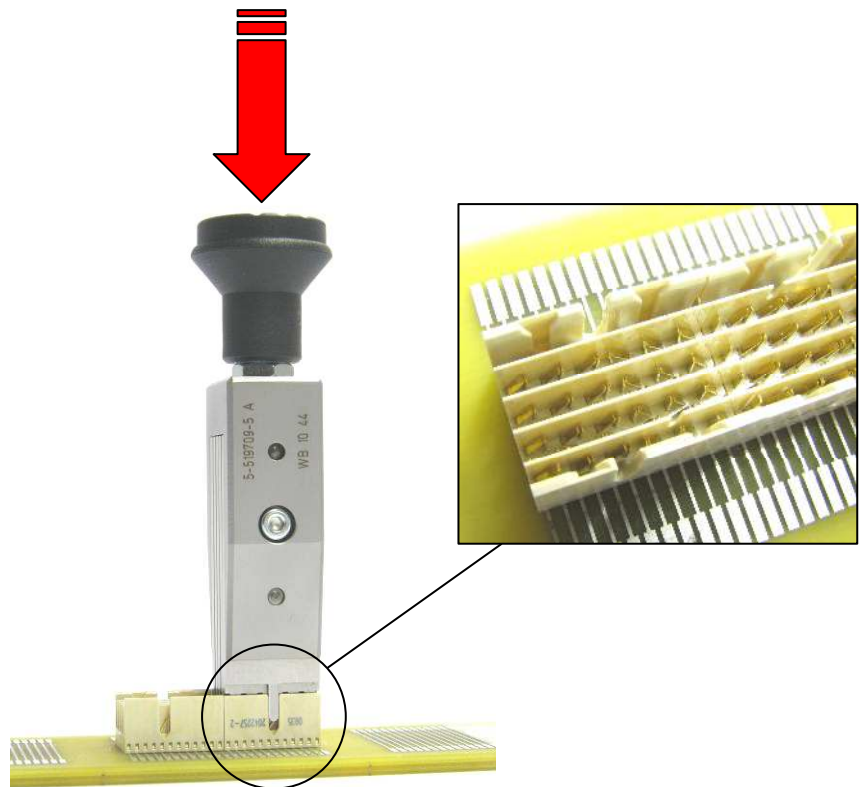

Figure 10
2. After that the tool is pressed downwards until the pins are bent (see figure 10).